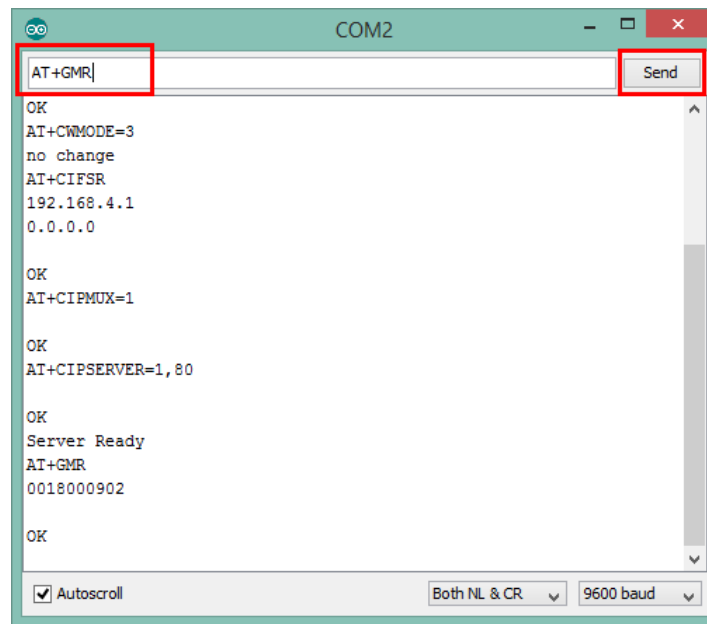

Figure 16. AT Command
9. You can also write “AT Command” to test ESP 8266 module. This example write “AT+GMR” command then click “Send” button as figure 16.